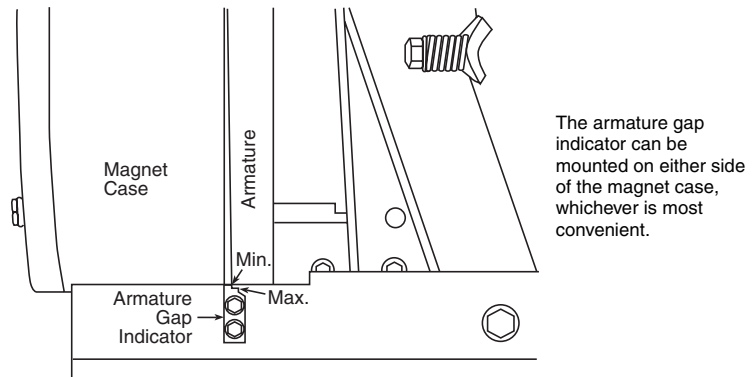

Figure 3: Armature Gap Indicator
The armature gap indicator (T) indicates the minimum and maximum allowable armature gap setting. It is mounted on the frame near the bottom of the magnet case (see Figure 3).
As linings wear, the armature gap increases. With the brake set, the armature gap is correct when the inside of the armature aligns with the inside edge of the slotted step of the armature gap indicator (T). The maximum allowable gap is indicated by the outside edge of the slotted step of the armature gap indicator (Figure 3). The stop nut (J) must be readjusted before the armature gap reaches the maximum allowable limit.